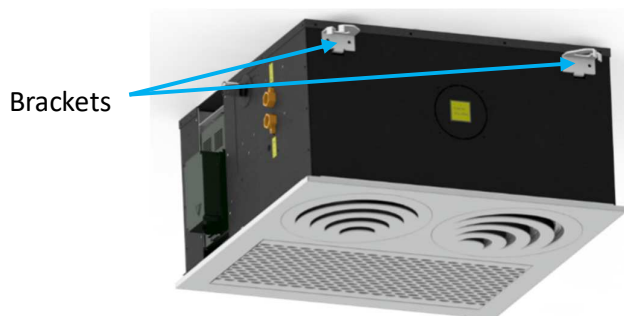

Figure B.4.1
- Do not lift unit by the condensate drain discharge pipe or by the water connections or front panel; lift the unit using four mounting brackets. (Figure B.4.1)